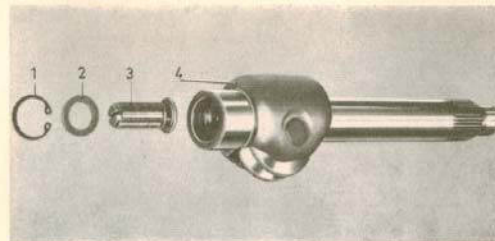

Fig. 6-27. Pitman arm shaft
5. Fit the adjusting screw, washer and locking ring on the pitman arm shaft, see Fig. 6-27. The axial clearance of the adjusting screw should be as